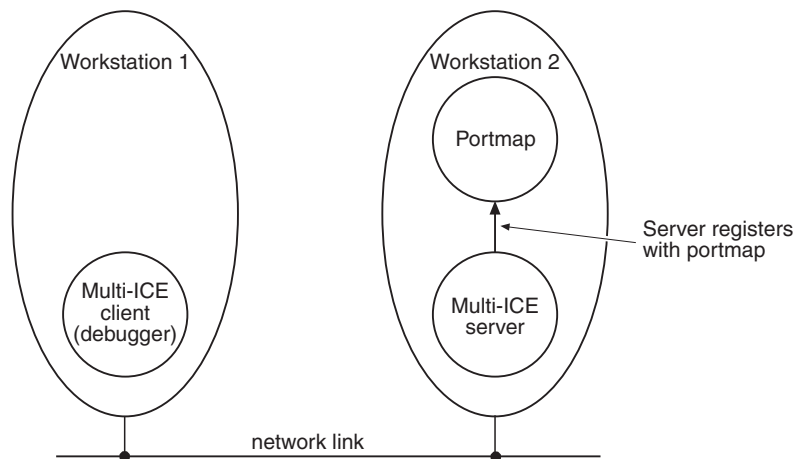

Figure 1-1 RPC server contacts local portmap
1. When the server starts, it attempts to connect to the local portmap service to pass on its connection details. This state is shown in Figure 1-1.